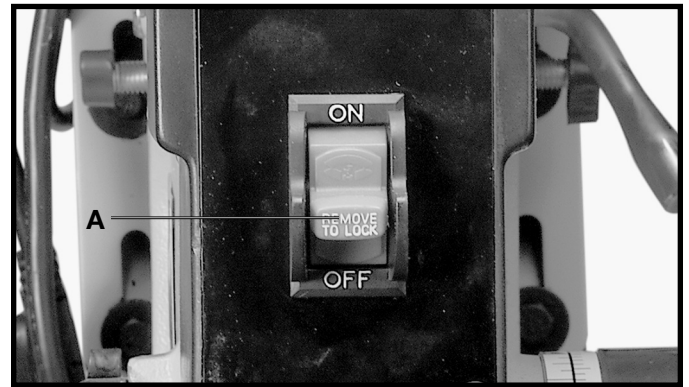

Fig. 20
The switch (A) Fig. 20, is located on the front of the drill press head. To turn the drill press “ON” move the switch up to the “ON” position. To turn the drill press “OFF” move the switch down to the “OFF” position.